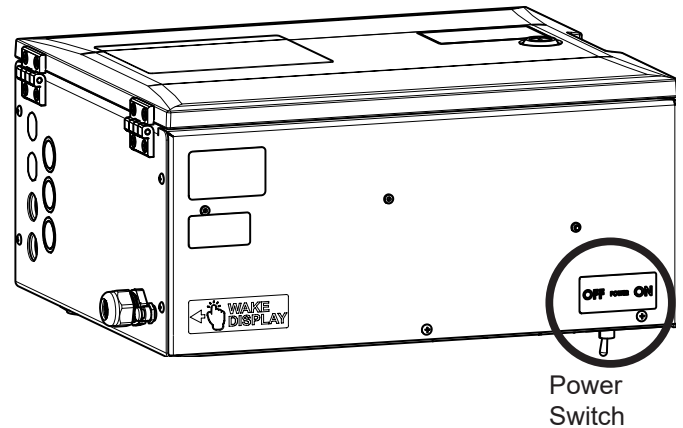

Figure 2. Set Power Switch to OFF
3. Set power switch to OFF (Figure 2).